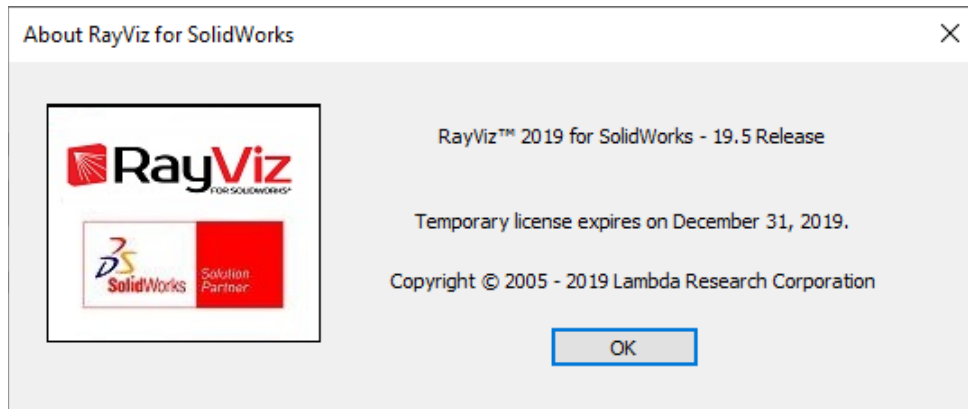

Figure 3.7 About RayViz for SolidWorks dialog.
- **About RayViz...:** This selection shows the about box for RayViz as shown in Figure 3.7. Of importance in this dialog is the Version, License Information and Build Numbers, which you can refer to when asking Technical Support or update questions. Select **OK** when done.